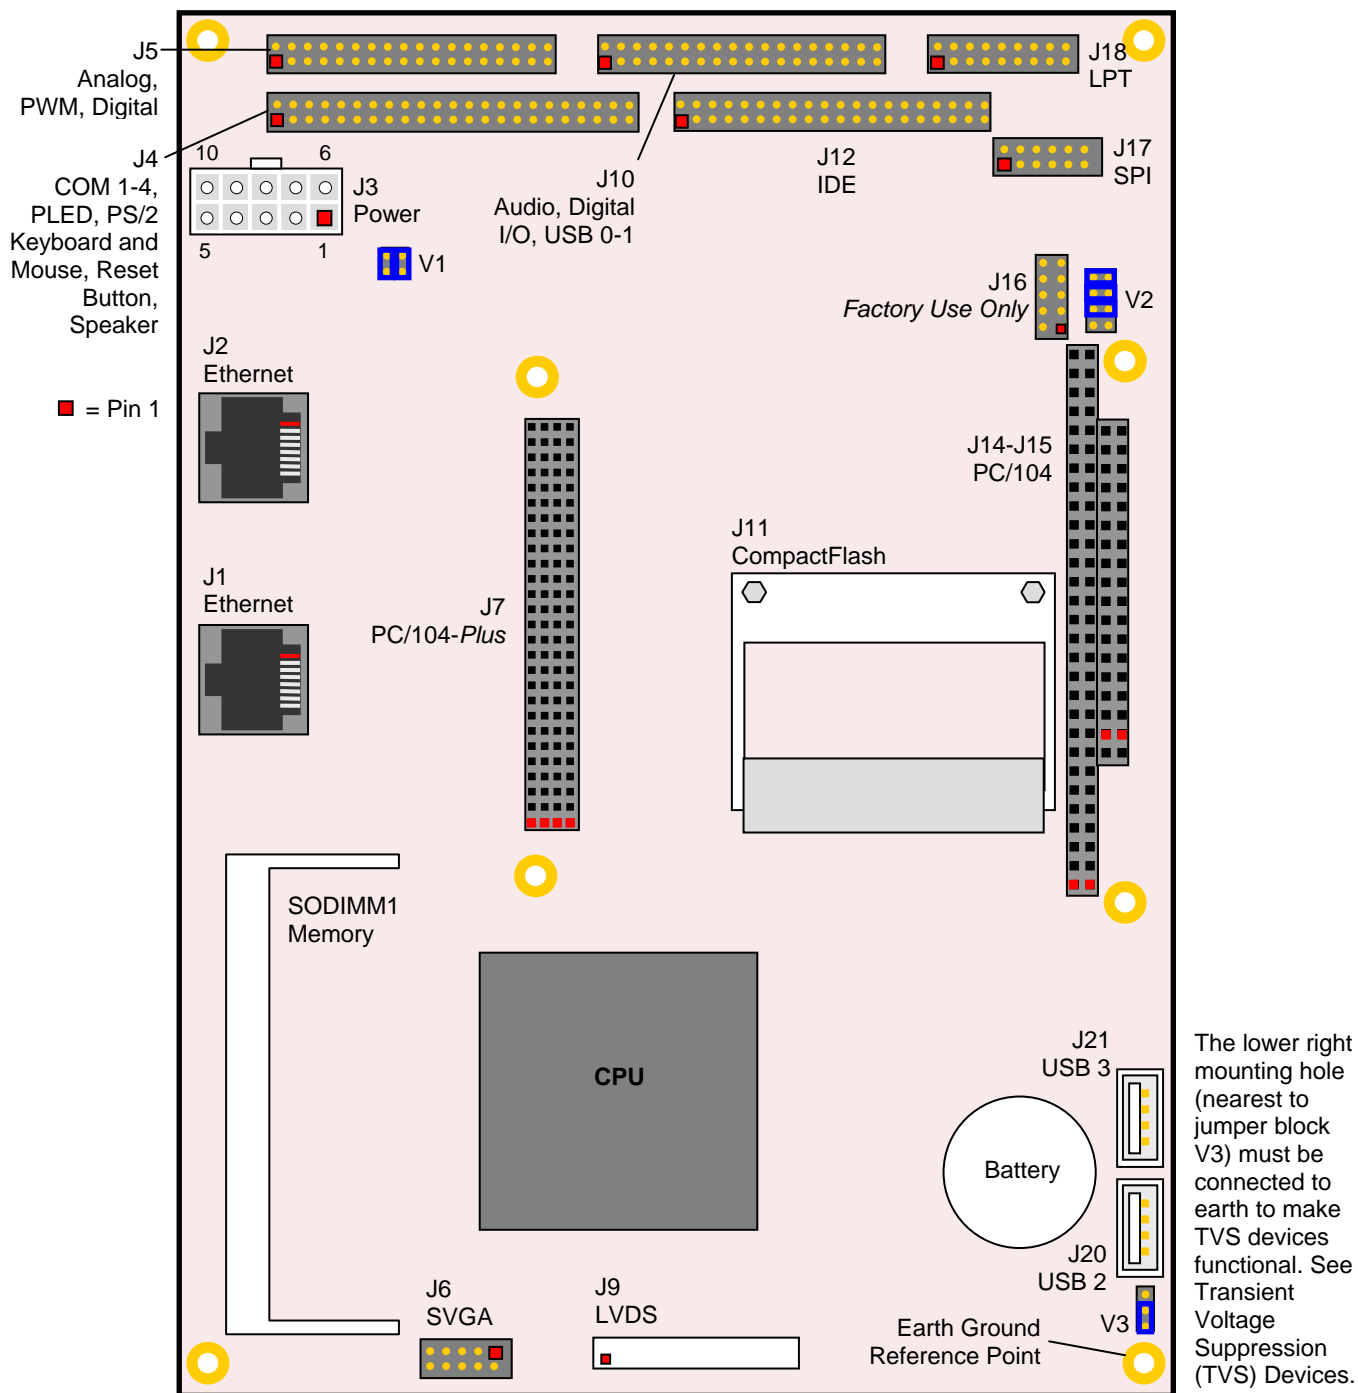

Figure 9. EBX-11 Connectors – Rev. 5.00 Boards and Later
1. The PCB origin is the mounting hole to the lower left, as oriented in Figure 9.